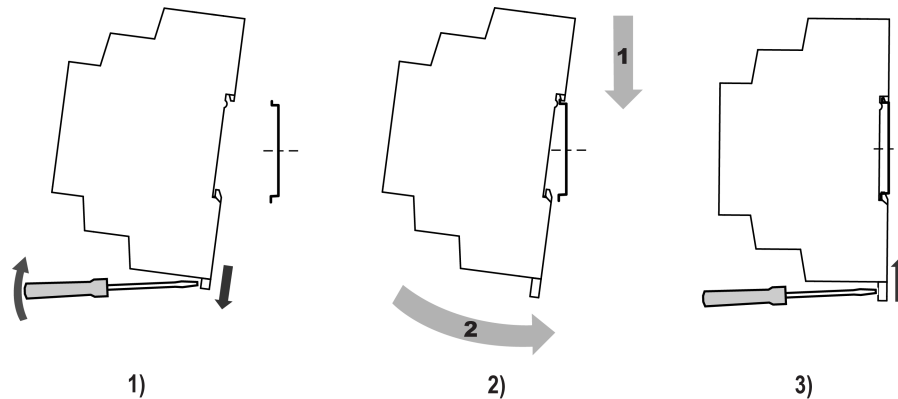

Fig. 5.1
1. Place the device on a DIN rail as shown in Fig. 5.1.